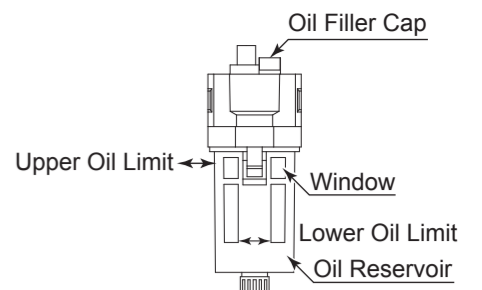

Fig. 21
- Fill Oil Reservoir through the Oil Filler Cap with recommended NAKANISHI Lubricating Oil (K - 211 : Air Line Kit's Standard Accessories) to Upper Limit of the Fig. 21. Disconnect from air supply prior to opening Oil Filler Cap. Do not over or under fill.
- Oil Amount (Fig. 21)
(Supply Lubricating Oil to Upper Oil Level Limit of Fig. 21.)